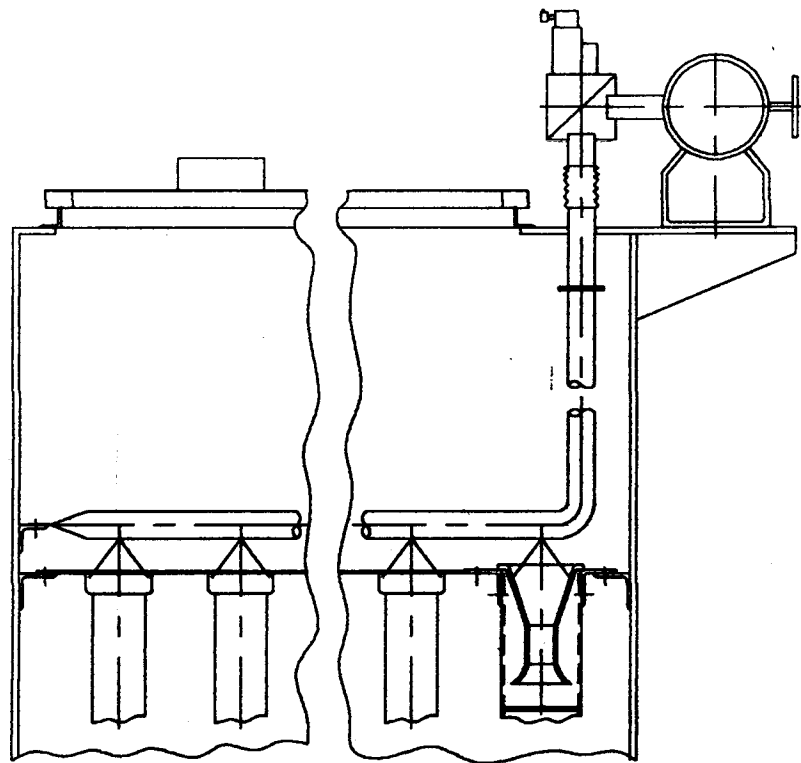
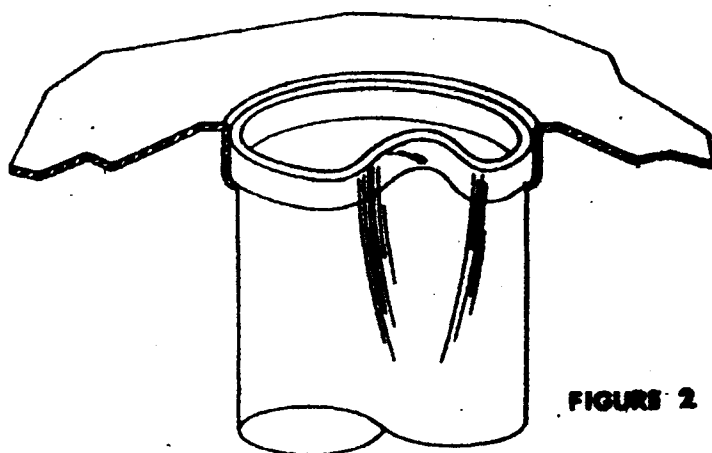

FIGURE 1
FIGURE 2
- 2.5. Collapse the snap-ring at the top of the bag by grasping with both hands and pushing in with thumbs (See Figure 2). Once the top portion of the bag is inserted in the tube-sheet, (See Figure 1) be certain it is properly sealed. (Top edge of the bag cuff should be slightly below the top of the tube-sheet or just even.)